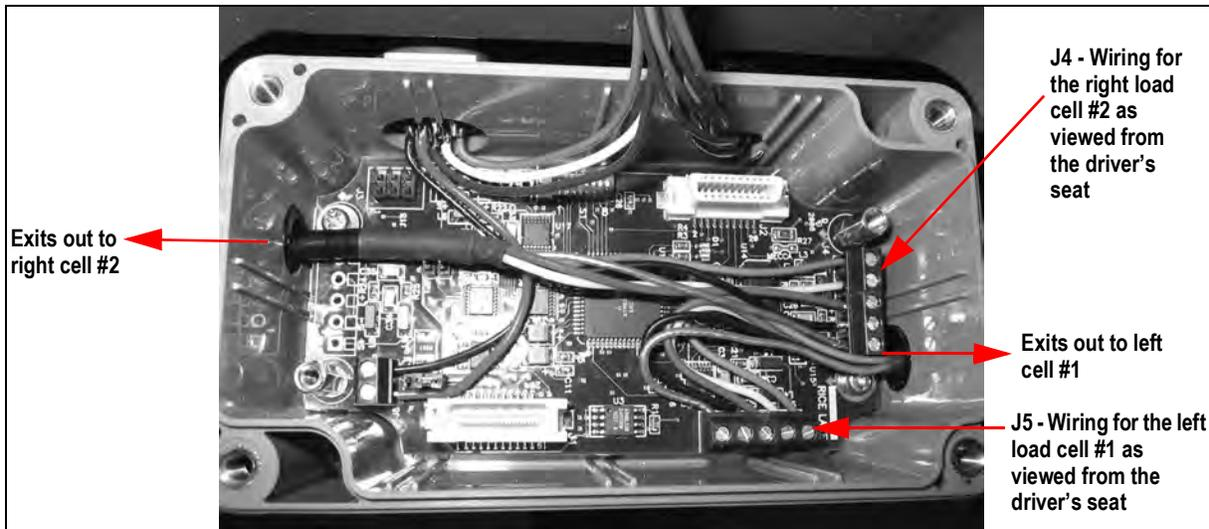

Figure 4-16. Bottom Board Wiring
Note The bottom board which is shown in Figure 4-16 connects the wiring for both load cells one and two. Table 4-10 lists the wiring assignments for the bottom board.
- Reconnect the wires to the bottom board per Figure 4-16 and Table 4-10.